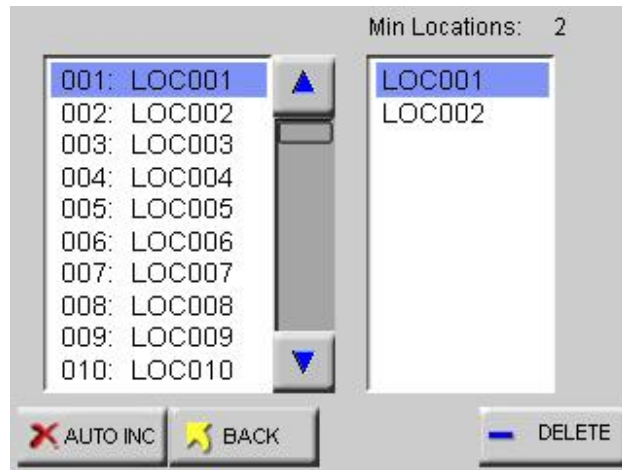

Figure 6-92 Reports Location Screen
- Select the LOC button to select, add or delete locations or enable Auto Inc as shown in Fig. 6-92.